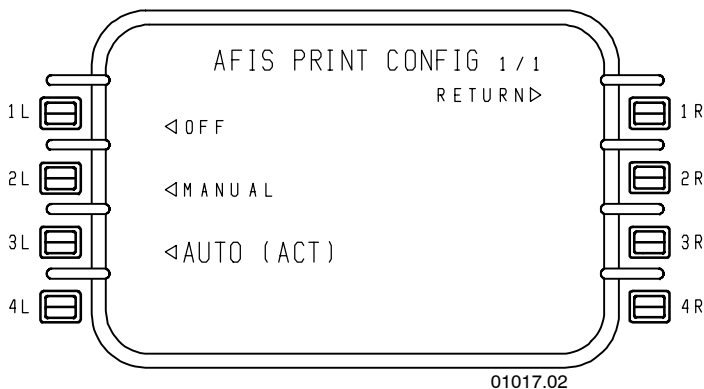

Figure 6-73
- **AFIS PRINT CONFIG 1/1** – Figure 6-73 is used to select the AFIS print configuration.